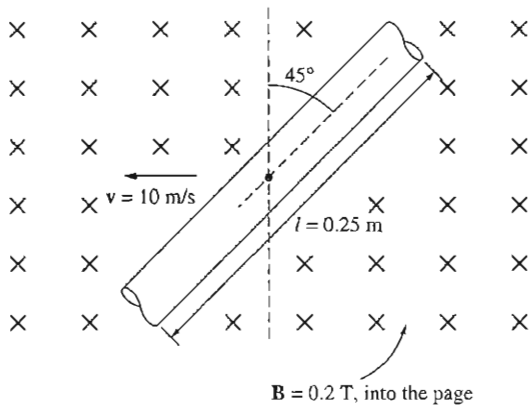

FIGURE P1-7
- 1-10. A wire is shown in Figure P1-7 that is moving in the presence of a magnetic field. With the information given in the figure, determine the magnitude and direction of the induced voltage in the wire.